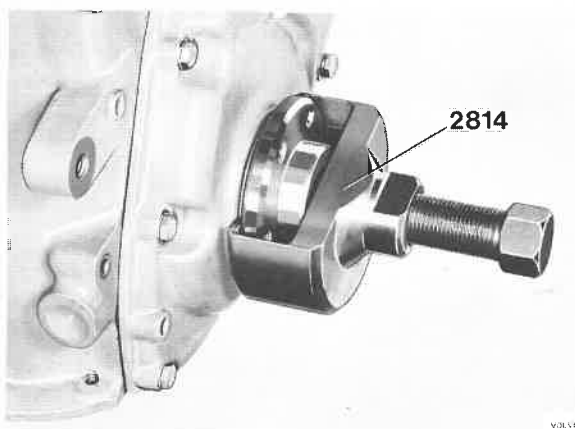

Fig. 21–35. Removing the polygon hub
3. Lever out the sealing ring. Oil the sealing lip on the new sealing ring and fit the ring with drift 2816, Fig. 21–36.